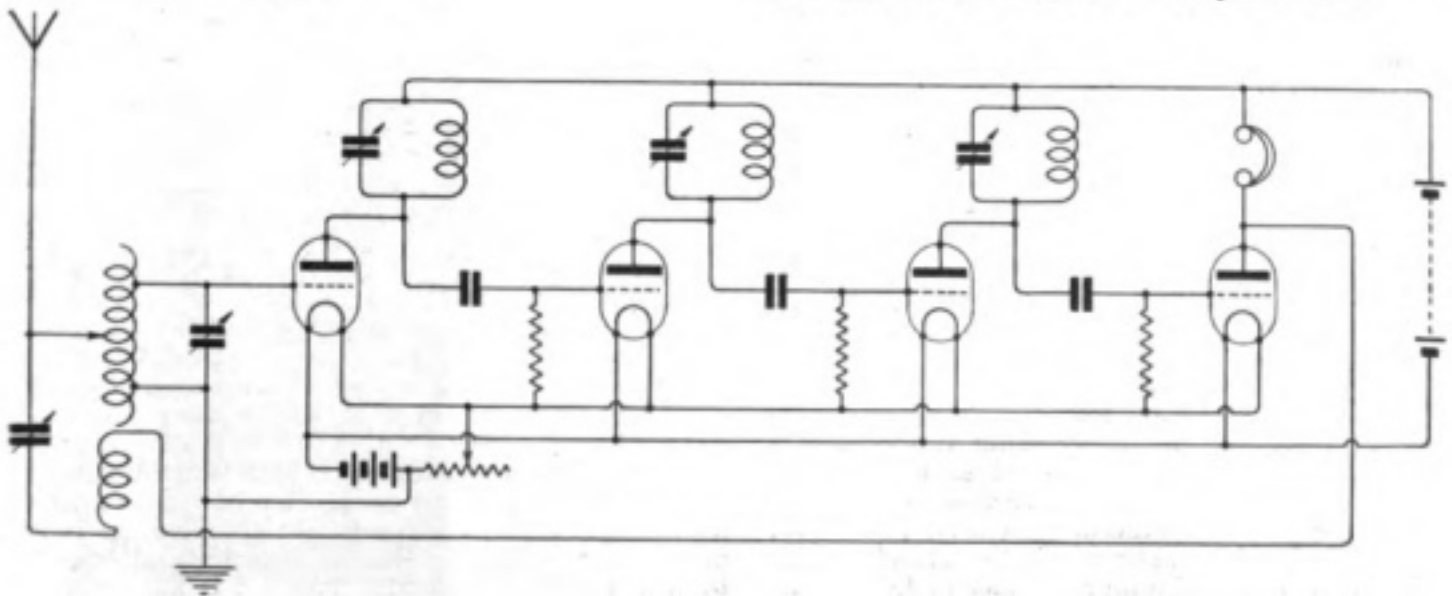

Fig. 9.
(1) See diagram (Fig. 9) (2) No exact figures are available. We doubt, however, if the tuner would be very much use about 1,500 metres.